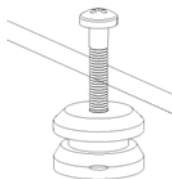
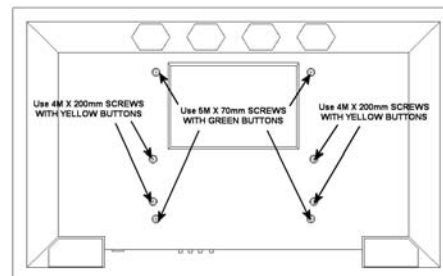

Figure 2
Figure 3
2. Attach mounting buttons to plasma using the enclosed screws and mounting buttons. Use 4 yellow buttons with the 20mm screw on the 4 inside mounting holes and use the green buttons with the 70mm screws on the outside mounting holes (see Figure 2 & Figure 3).